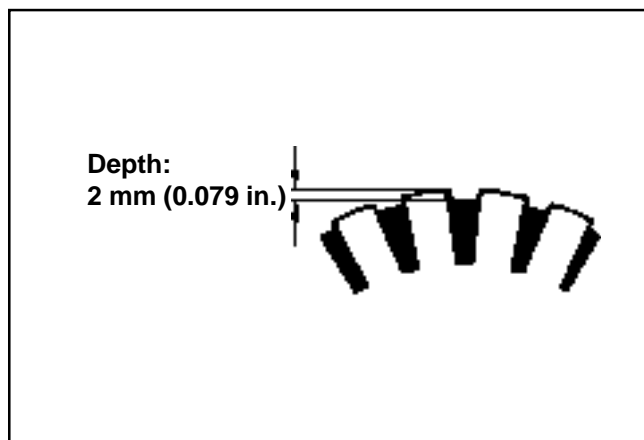

Figure 8-35. Commutator Mica Depth.
2. Measure the mica (insulation depth between the commutator segments). The depth should be **2 mm (0.079 in.)**. If less, cut/scrape the mica to the proper measurement using a hacksaw blade or similar tool ground to fit between the segments. See Figure 8-35.